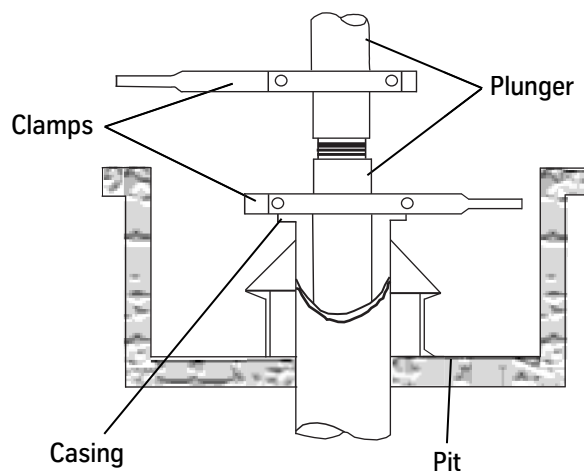

Figure 13 - Jack Clamp
3. Secure a jack clamp to the plunger section 2' to 3' below the threaded connection, and lower this section until the clamp rests on the casing flange. See Figure 13.